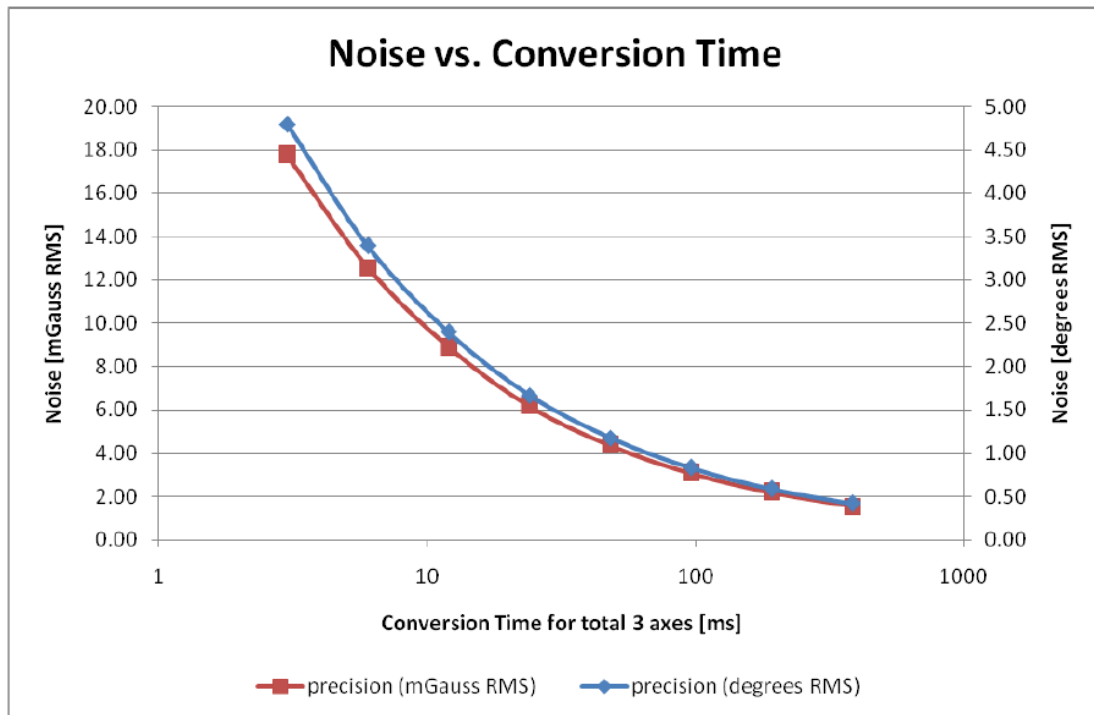

Figure 5: Relation between the noise and conversion time
4. Sending a Command Byte by the Master, as depicted in Figure 5. The Slave will always acknowledge this, even if it is an unrecognized command.
10. Generating a Stop condition (P) by the master